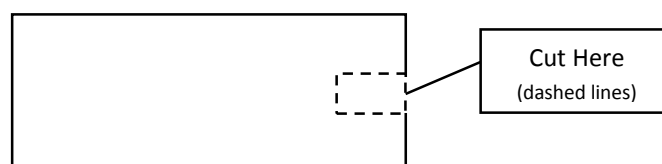

Figure 2 Cutting the cardboard pieces
Step 1 – Cut a rectangular notch (about 1" x 2 ") on the short side of each piece of cardboard so that the notches overlap (Figure 2).
Step 2 – Place the two pieces of cardboard on top of each other and tape them together to make a double thick piece of cardboard. Make sure the notches line up as in Figure 2.